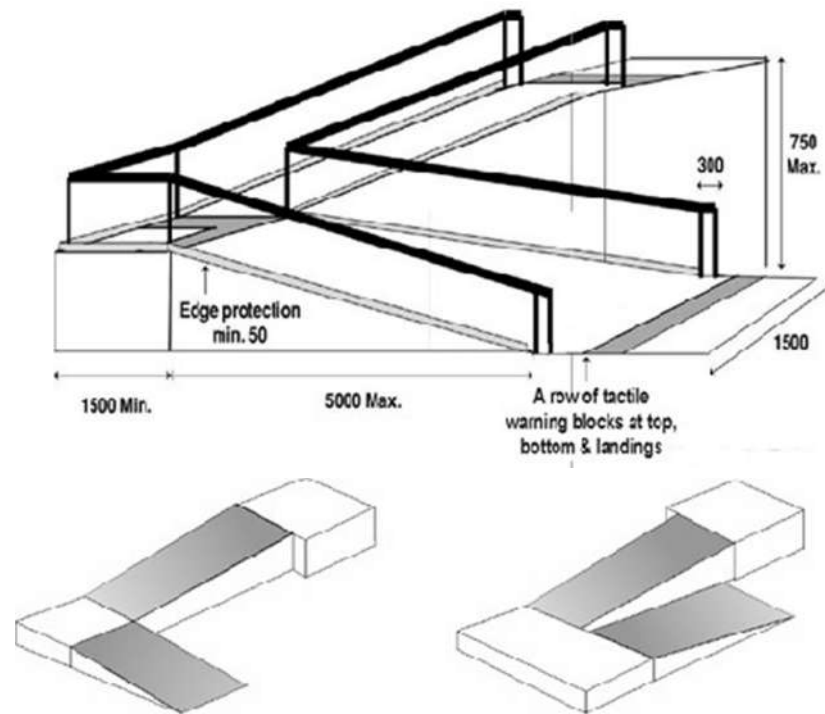

Figure 5.11 L-shape and switch back platform ramps for schools having less space in front for ramp
- Warning tactile paver should be placed at 300mm before and after the ramp edges (**Figure 5.11**)